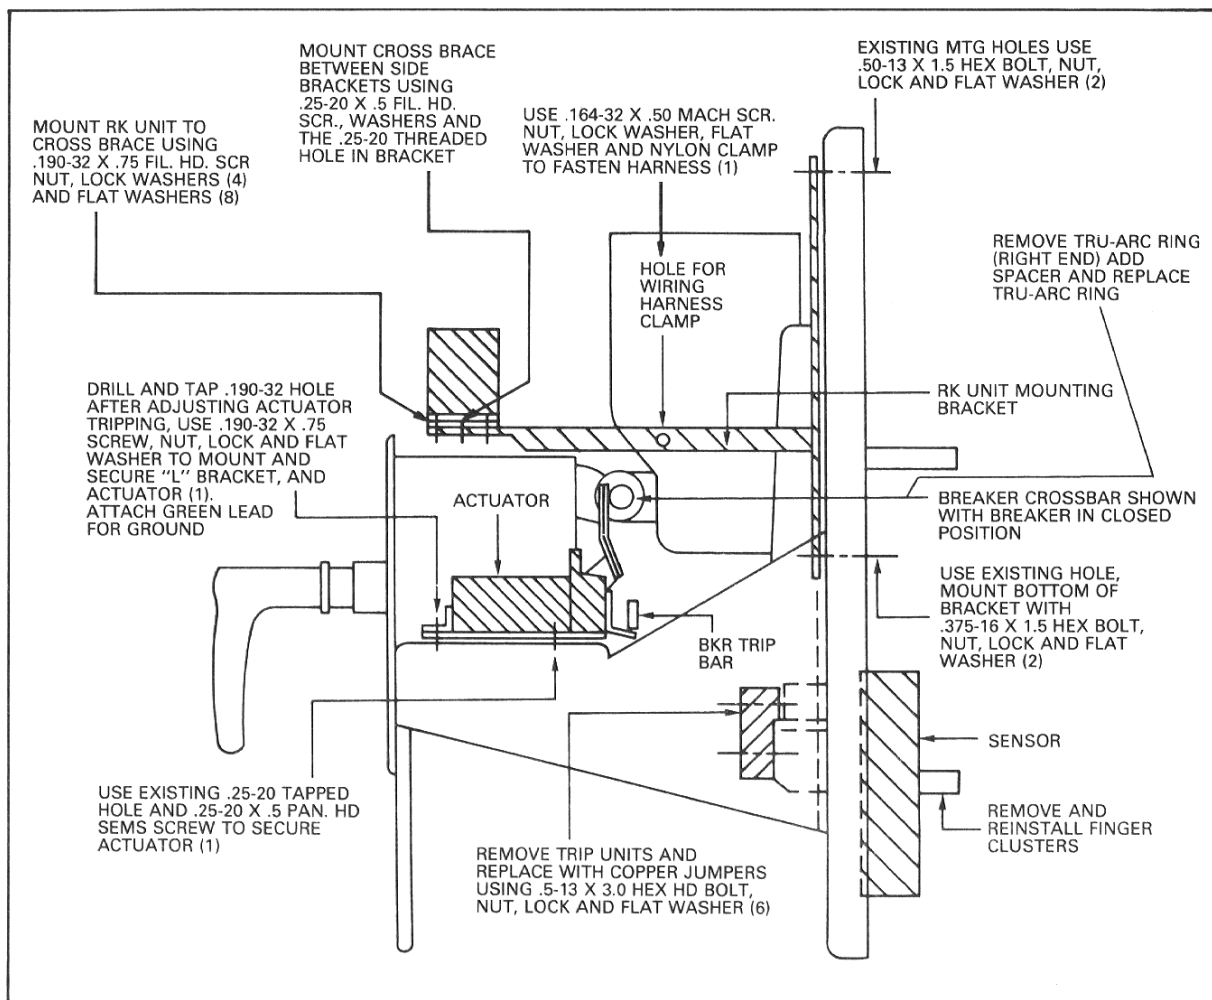
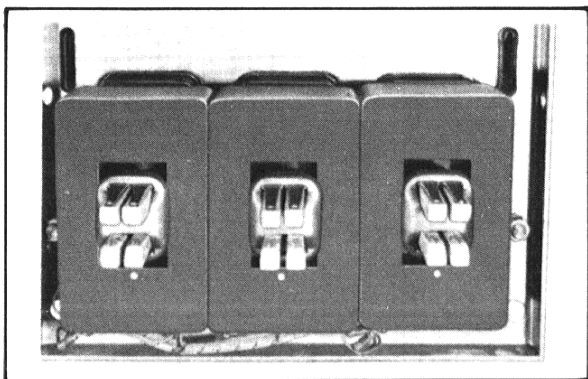

Fig. 8 Right Side View of DB-25
Fig. 10 Sensors in Place DB-25, Bottom Studs, Rear View
All sensors are mounted on the rear lower studs on the back of the breaker base, Fig. 10.
- 5. Review the photographs to acquaint yourself with the items and location. Especially the right side view of the breaker Fig. 8.
*Note: Kits contain more hardware than required due to multi-purpose use, check right side view Fig. 8 for number and size of hardware.
1. The RK mounting details consist of two (2) 'T' shaped brackets. One (1) right and one (1) left hand and one (1) cross bracket. Remove the existing bolts at the top of the rear frame, place bracket over lift bracket and secure with .5-13 x 1.25 bolt, using the existing hole secure the bottom end of bracket with .38-16 x 1.5 bolt, Fig. 8. Place cross bracket between the brackets and secure using .25-20 x .5 fil. hd. screw, washers and the .25-20 threaded hole in bracket, Fig. 8.
2. The RK is now mounted on the cross bracket using .190-32 x .75 fil. hd. screw, washers, lockwashers and nuts, Fig. 8.
6. Remove the finger clusters from the lower studs, wire the harness leads to the sensors, (Figs. 10-11). Attaching the wires can be accomplished easily by having the terminals of the sensor facing upwards. Once the leads are secured the sensors can be flipped 180° and placed on the lower studs, (Fig. 10), now reinstall the finger clusters. Secure the wiring harness to the right hand mounting bracket using nylon clamp and .164 hardware. Fig. 8